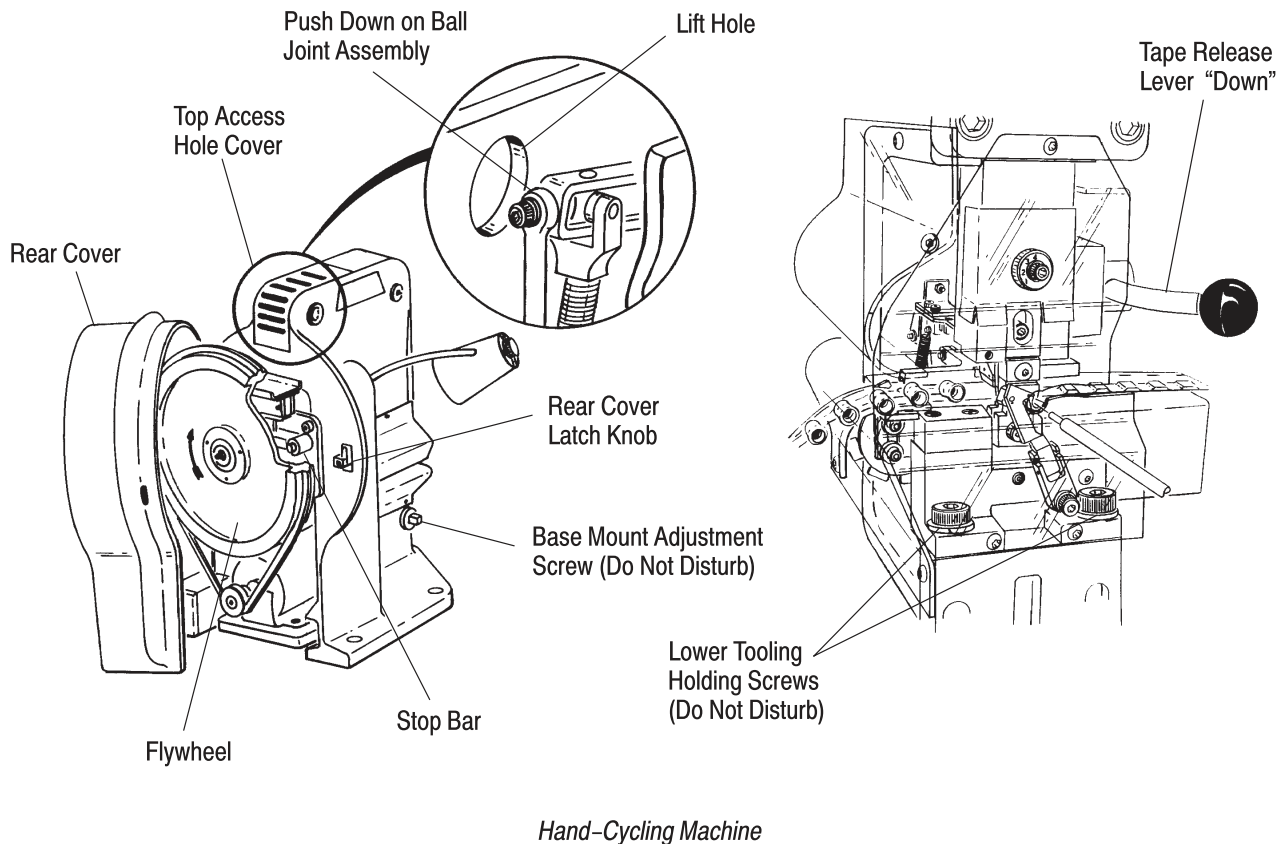

Figure 11
4.1. Hand-Cycling Machine (Figure 11)
2. Make sure the tape release lever is in the "down" position. See Figure 11.